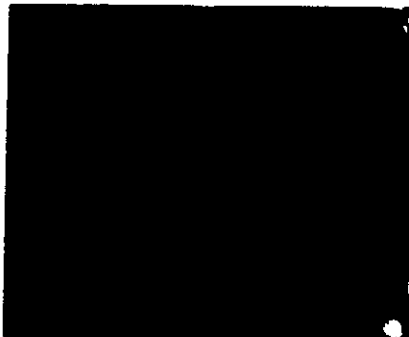

Figure 3-3. Background illumination immediately after erasing with WRITING SPEED in FAST and PERSISTENCE to MAX.
- h. BACKGROUND ILLUMINATION — A green cloud of illumination visible on the CRT screen, Figure 3-3.